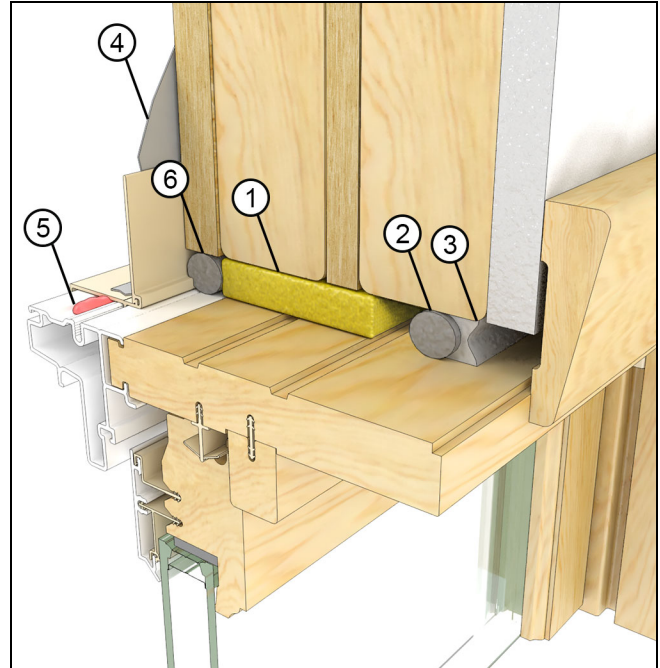

Figure 21
**2. Low Expansion Foam.** Install an optional backer rod at the exterior plane of the RO. Apply a low expansion/low compression closed cell foam in the cavity. Install a backer rod and sealant at the interior plane of the RO to create a continuous air seal. See Figure 21.